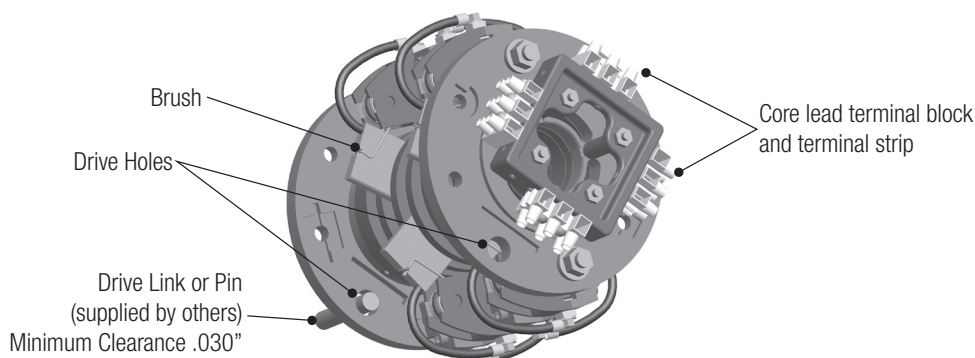

Figure 3-2
3.1.1.5 The brush carriage on a standard slip ring assembly has drive holes in the outboard bearings. See **Figure 3-2**